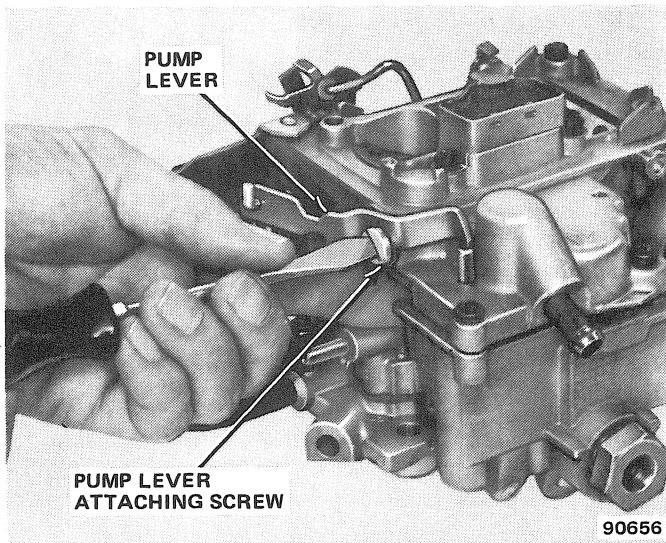

Fig. 1J-27 Model 2SE Carburetor—Pump Lever Removal
(1) Remove pump lever retaining screw from air horn (fig. 1J-27). Rotate pump lever to remove from pump rod.